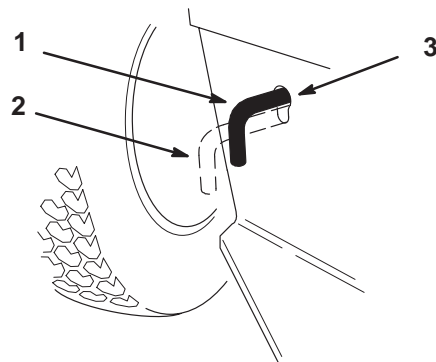

Figure 16
2. Move the drive control rod to the “PUSH” position. This disengages the drive system and allows the wheels to turn freely (Fig. 16).
1. Move the drive control rod to the “OPERATE” position (Fig. 16).